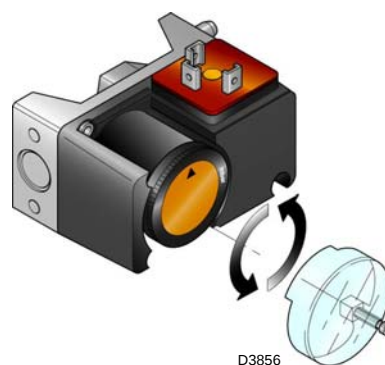

Fig. 41
- Adjust the maximum gas pressure switch (Fig. 41) to the end of the scale.
Adjust the maximum gas pressure switch after having performed all the other burner adjustments with the maximum gas pressure switch set at the end of the scale (Fig. 41).